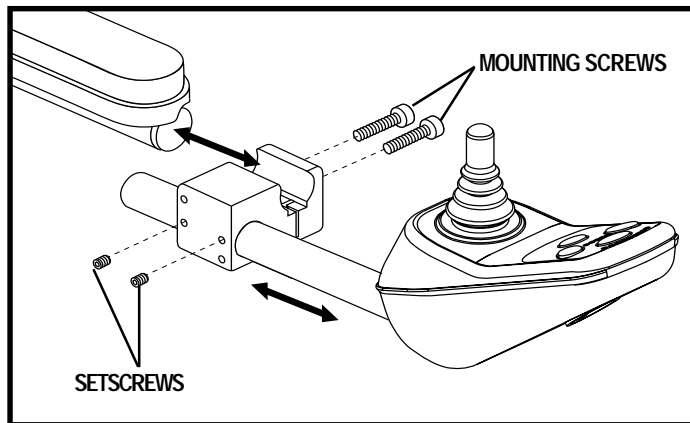

Figure 20. Adjusting Controller Position (Synergy Seat)
5. Loosen the mounting screws in the controller mounting block. See figure 20.